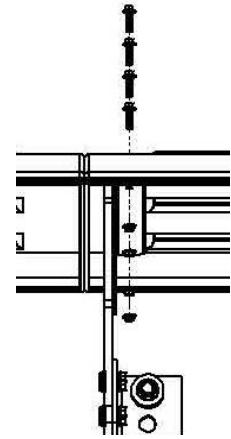

Figure 11
H. Drill four 5/16" holes through the fender using the holes in bracket PB5071 as a guide (Figure 11).